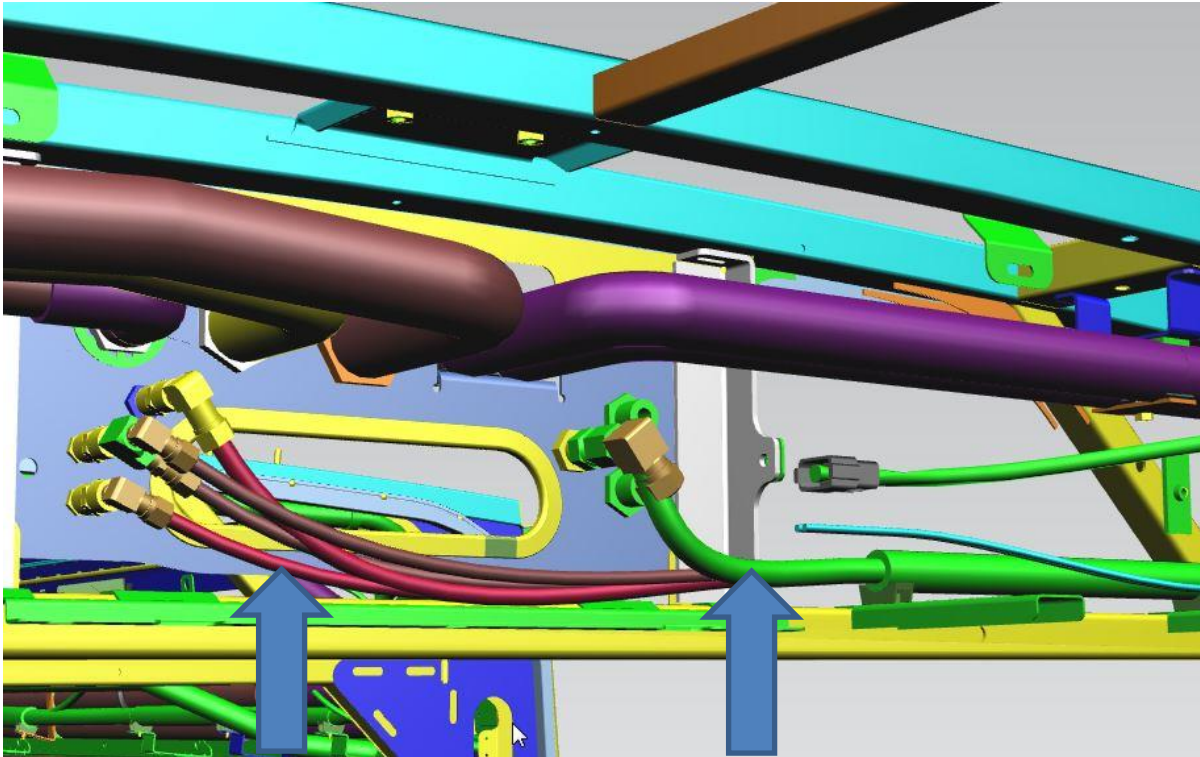

FIGURE 9: VIEW OF THE AIRLINES TO BE DISCONNECTED
14. Disconnect the (5) airlines at the bulkhead plate. Mark and label to ensure the correct airline is installed back at the correct location. See Figure 9.